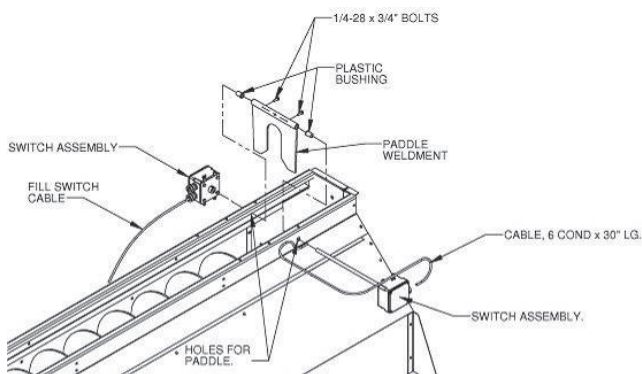

Fig. 2-16 - Paddle switch installation
3. Attach fill auger paddle switch assembly. Locate holes for paddle switch in wet bin on end opposite of filling end. See Fig. 2-16.
4. Slide a plastic bushing on each side of wet bin from inside out. Slide shaft with tilt switch box through bushing on one side of wet bin. Position paddle weldment inside of wet bin and slide shaft through pipe of paddle weldment. Slide shaft through bushing on other side of wet bin. Tighten setscrews of paddle weldment onto shaft, making sure paddle and box on shaft are square and paddle can pivot freely. See Fig. 2-16.